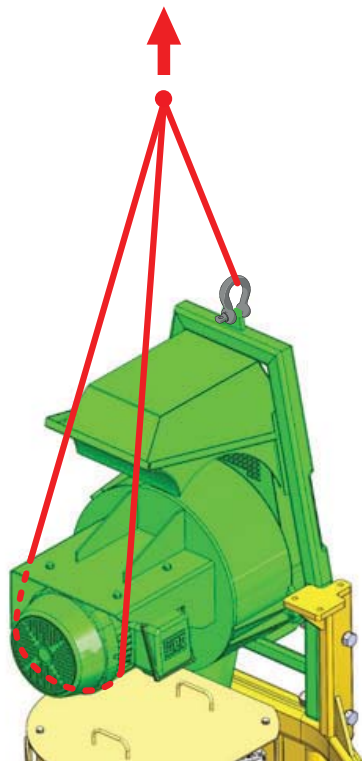

Figure 2: Lift blower assembly using slings and straps as shown
1. To remove the existing blower, add a shackle to the lug on top of the blower A-frame to connect a sling or strap. Also, install a strap around the bottom rear of the motor to support the blower by using a 3-point lifting procedure with a winch or crane as shown on Figure 2. The 3-point lift will help balance the load of the blower.